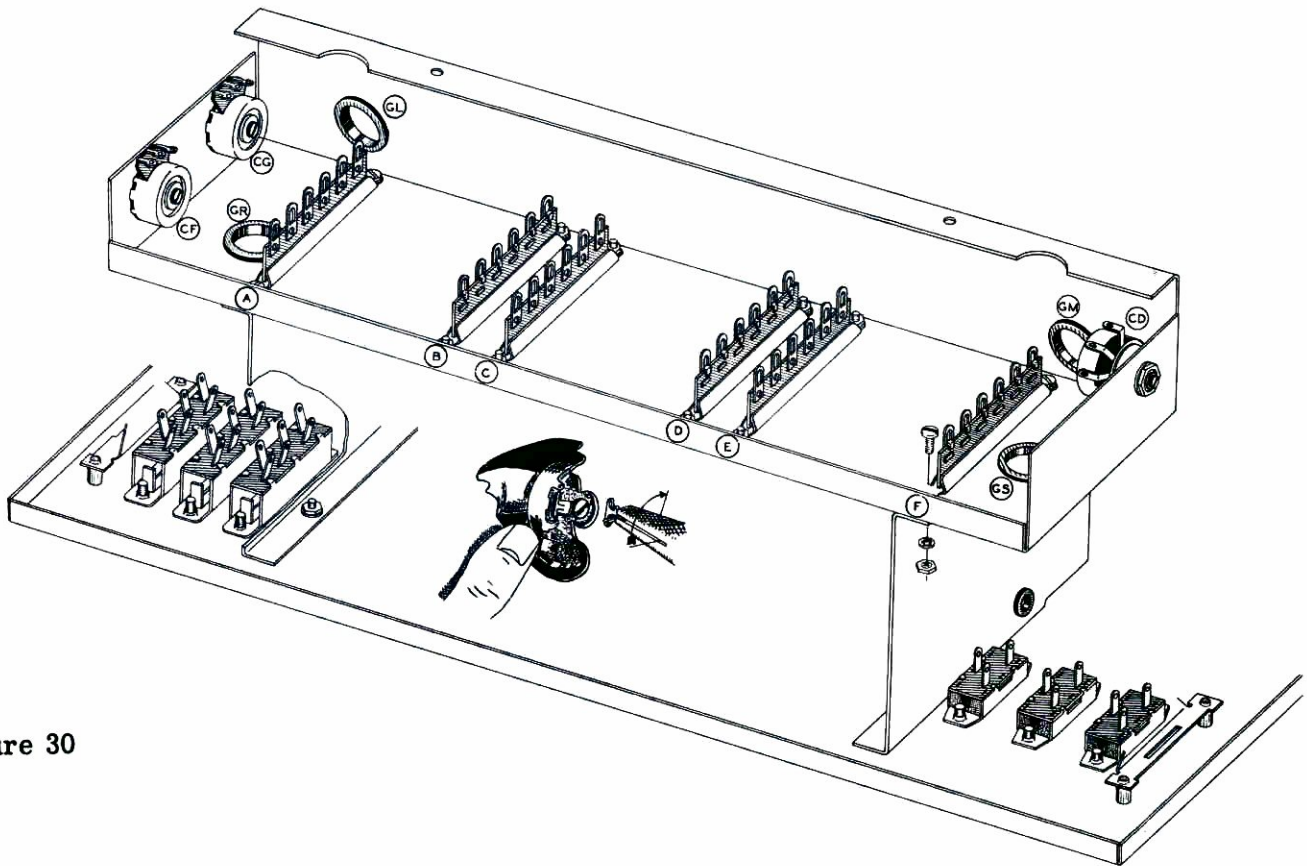

Figure 30
- ( ) Mount the two 10 K $\Omega$  tab mount controls (#10-57) in the end flange of the sub-chassis. See Figure 30 for mounting details.